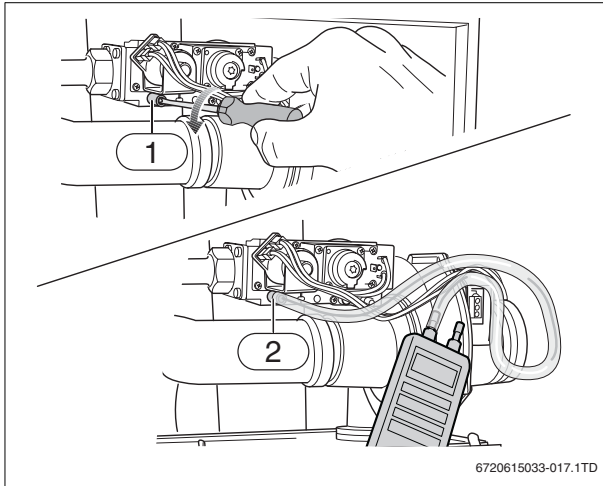

Fig. 13 Measuring the gas supply pressure
- ▶ Close the gas shut-off valve. Loosen the screw plug on the inlet gas pressure testing nipple by two turns (→ fig. 13, [1]).
- ▶ Connect the pressure gauge connection hose to the testing nipple (→ fig. 13, [2]).